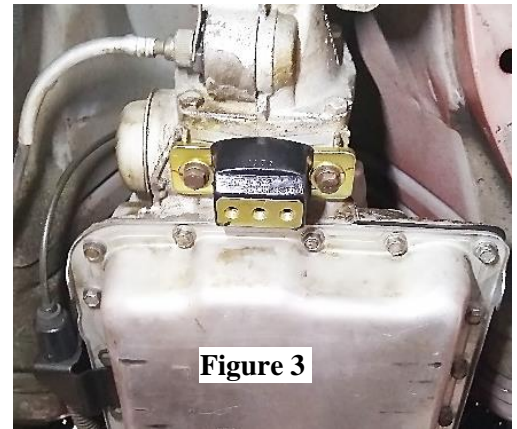

Figure 3
2. Install the provided urethane mount to the transmission tail housing using the included Energy Suspension instructions and reusing the factory bolts. **(Figure 3)**